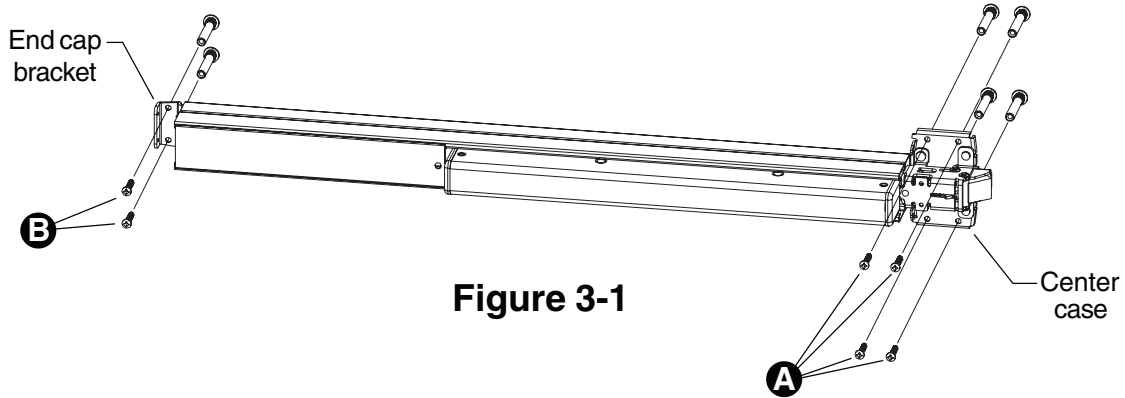

Figure 3-1
- 3.1. Prepare holes **A** (see Figure 3-1 and chart at bottom of page).
- 3.4. Install device to door at center case (Figure 3-1).